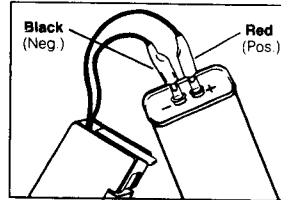

Fig. 2
3. Connect test clips to capacitor, noting polarity if checking electrolytics. (Fig. 2)